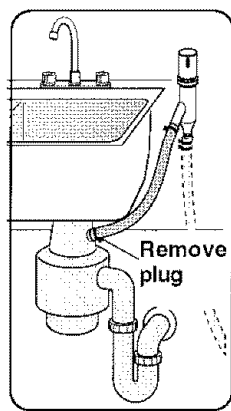

Figure 11
- 4 To a disposer dishwasher drain connection through an air gap, as shown on Figure 11.